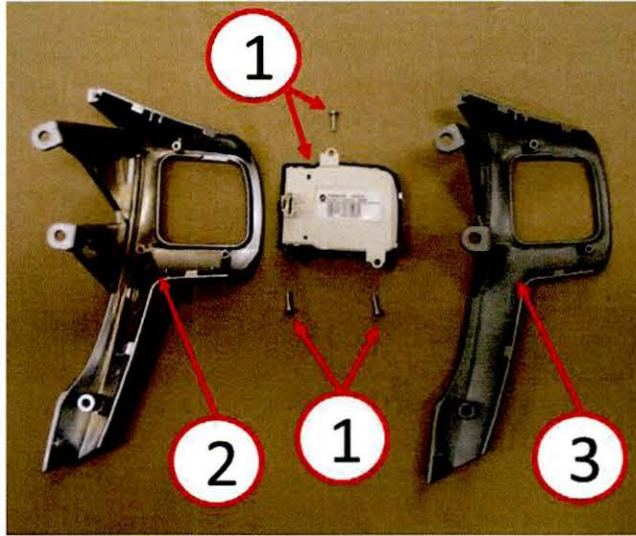

***Fig. 2 Bezel Removal***
3. Remove the four screws (1) securing the bezels to the steering wheel (Fig. 2).
4. Remove the left bezel (2) from the steering wheel. Disconnect the switch electrical connector from the switch and slip the cable tie (3) off the upper bezel fastener tab (Fig. 2).
5. Remove the right bezel (4) from the steering wheel. Disconnect the switch electrical connector from the switch and cut the cable tie (5) securing the wire harness to the right bezel (Fig. 2).